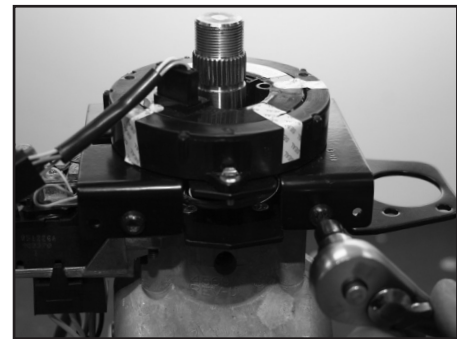

Figure 1
2. Use a T27 Torx bit/driver to remove (4) clockspring bracket retaining screws. **Figure 1**